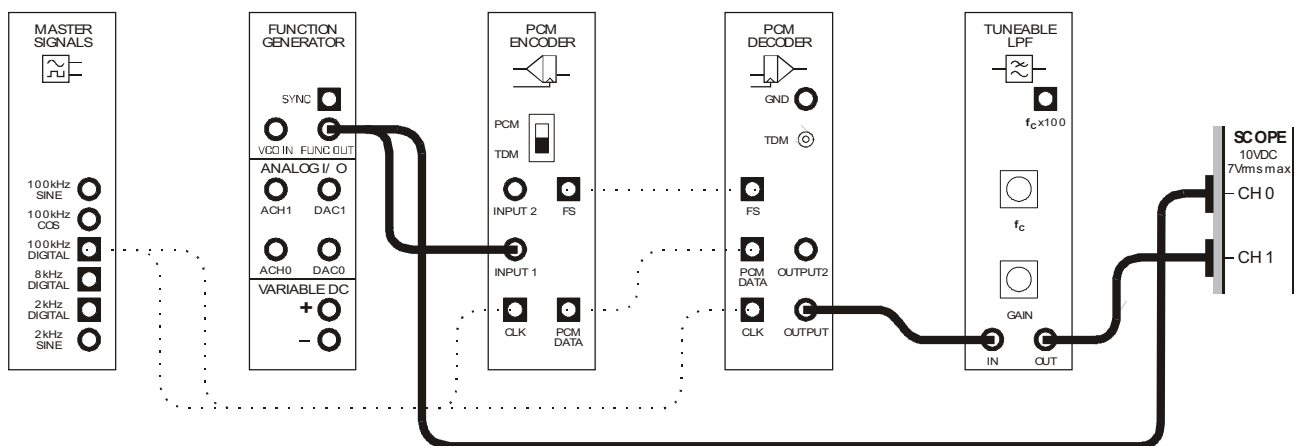

Figure 10
51. Modify the set-up as shown in Figure 10 below.